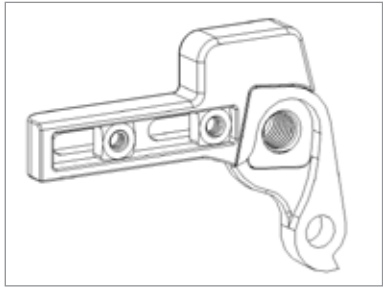

Figure 2
4. Set two M6 square nuts in the lower inside recesses of the driveside dropout plate (Fig. 2).